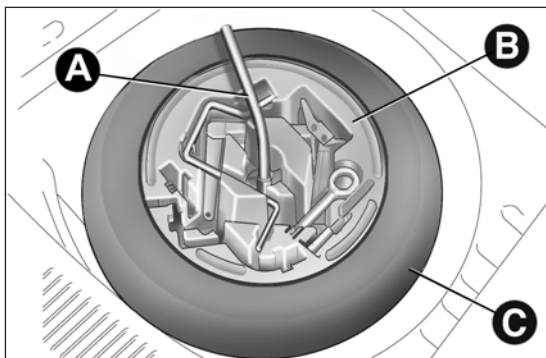

fig. 122
- using the wrench A fig. 122 positioned in the tool box, loosen the locking device, take the tool box B and place it close to the wheel to be replaced, then take the space/saver wheel C;